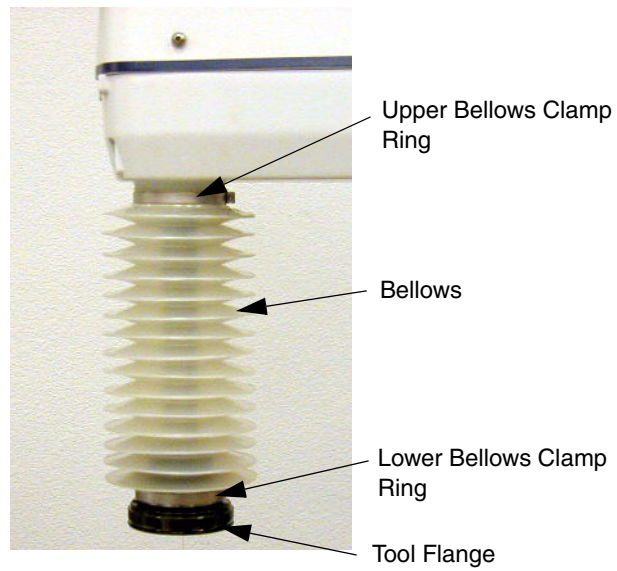

Figure 8-3. Cleanroom Bellows Replacement
1. Remove the lower bellows clamp ring from the bearing ring by loosening the screw on the clamp. See Figure 8-3.